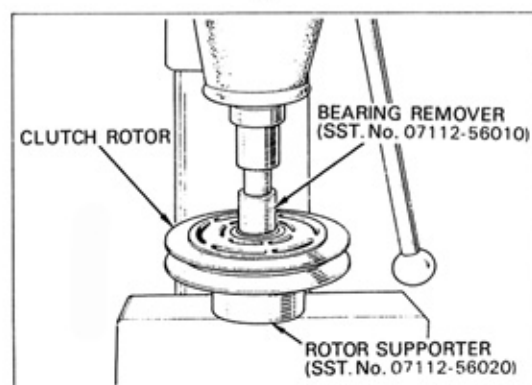

Fig. 69
- c) Place the clutch pulley on the rotor supporter (SST No.07112-56020) with contact surface side up, and press two bearings using bearing remover (SST No.07112-56010) from the clutch pulley. See Fig. 69.